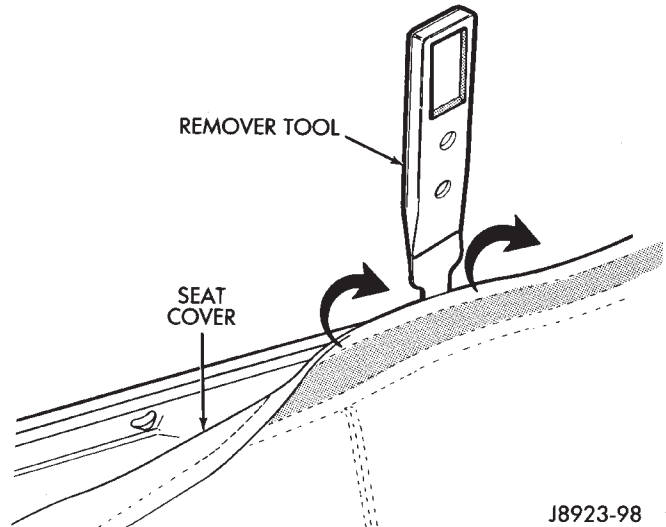

Fig. 16 Seat Cushion Cover Retaining Clip Removal
- (1) Remove the seat cushion from the vehicle.
- (2) Remove the cover side, front and rear retaining clips from the wire retainers with an appropriate removal tool (Fig. 16).